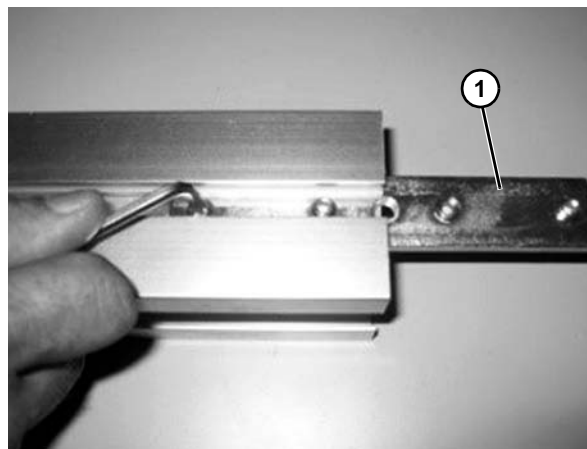

Figure 21
1. Connect two conveyor beam ends by inserting connecting strips (**Figure 21, item 1**) into the beam inner T-slots. Use two connecting strips per beam joint.